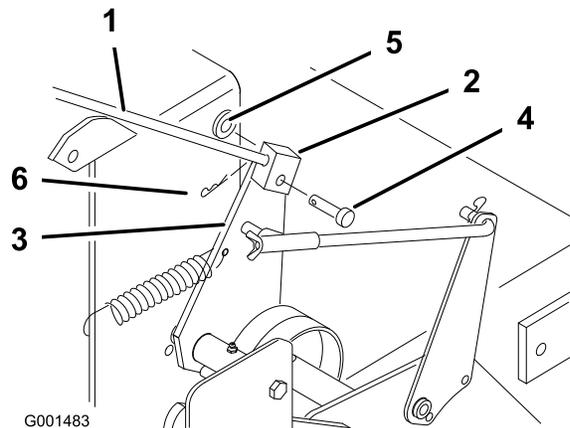

Figure 20
- Remove hairpin cotter, washer and clevis pin securing control rod fitting to idler bracket (Figure 20).